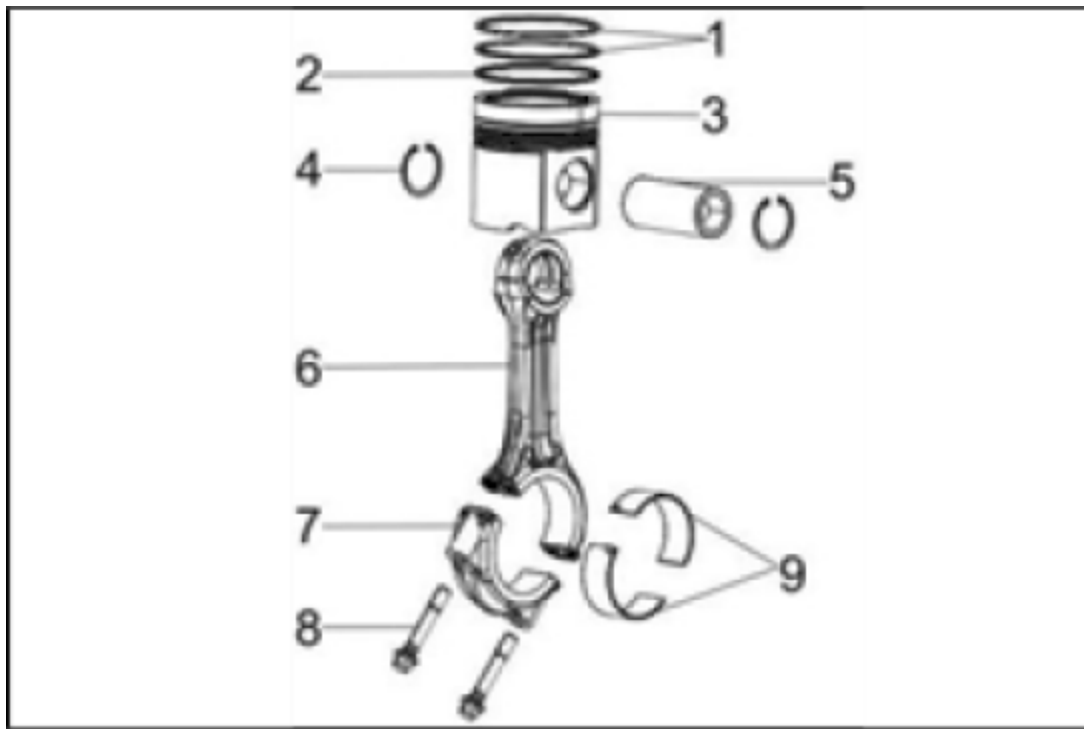

Figure 79.
14. Remove the connecting rod bearings (Figure 79, Item 9).
15. Remove the compression rings (Figure 79, Item 1) from the piston using a piston ring expander.
16. Remove the oil ring (Figure 79, Item 2) from the piston using a piston ring expander.
17. Remove the circlips (Figure 79, Item 4) from the piston pin.
18. Remove the piston pin (Figure 79, Item 5) and connecting rod (Figure 79, Item 6) from the piston (Figure 79, Item 3).